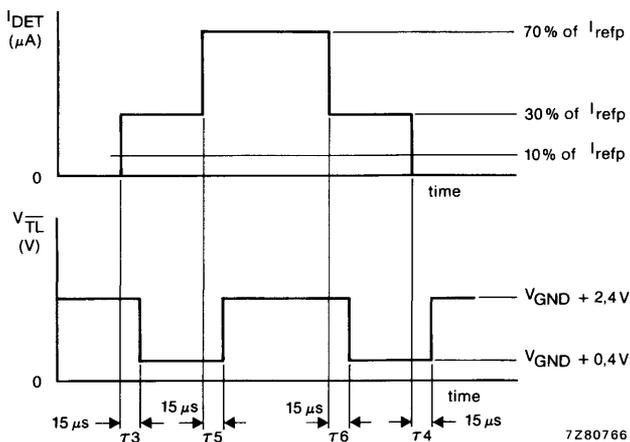

Fig. 5 Delay times between  $I_{DET}$  and  $V_{\overline{TL}}$ .
- $\overline{TL}$  delay times  $\tau_3$ ,  $\tau_4$ ,  $\tau_5$  and  $\tau_6$  measured as shown in Fig. 5.